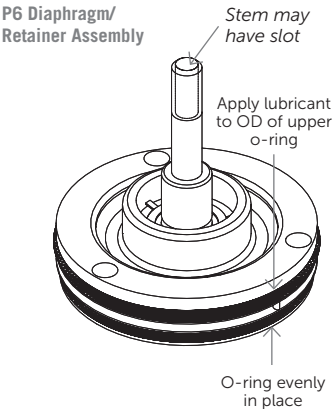

Figure 2.
2. Begin assembly by applying a light coating of lubricant (S1) to the diaphragm/retainer assembly (P6) o-ring. (See Figure 2.)
3. Make sure the o-ring between the diaphragm and retainer is evenly in place (See Figure 2) and then install the diaphragm/retainer assembly (P6) in the valve body and push the retainer all the way down.